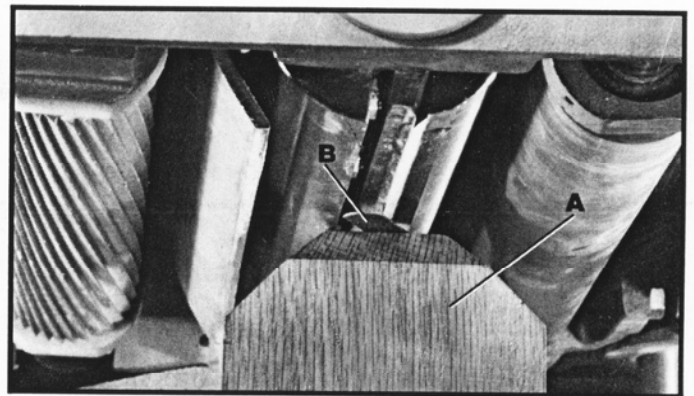

Fig. 31
3. Place the gage block (A) Fig. 31, on the table directly underneath the cutterhead, as shown. Using a 0.040" feeler gage (B) placed on top of the gage block, raise or lower the head assembly until one of the knives just touches the feeler gage when the knife is at its lowest point. Then tighten the head locking knobs.